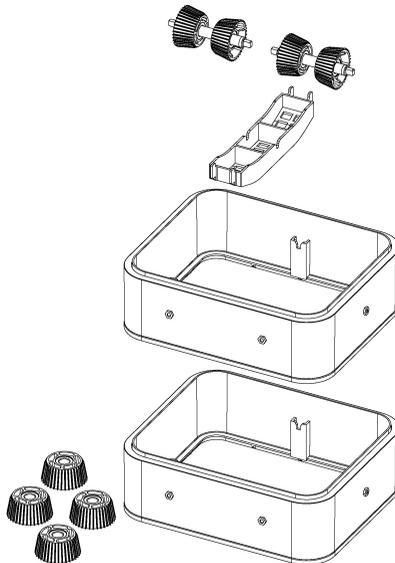
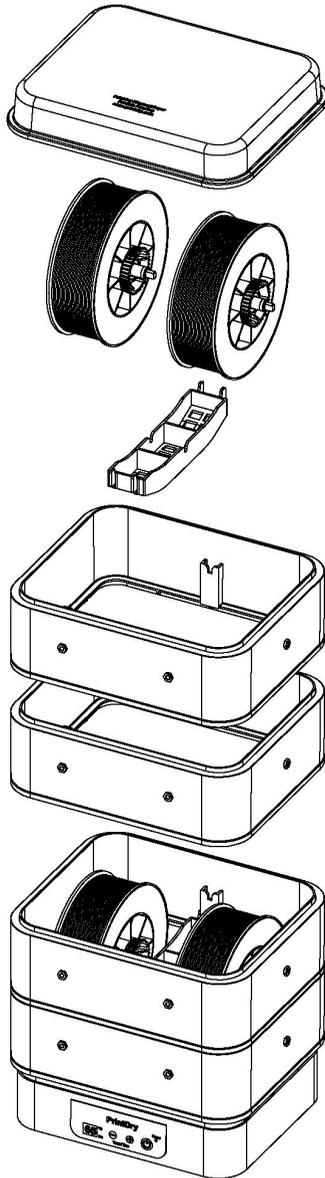

Fig.6 Additional Chamber Kit (Optional)
Fig.7 Use of Additional Chamber Kit (ACK-PRO)
4 vertically mounted spools with max OD of 203mm (8") each. See Fig.7.
- **ACK:** Additional chamber kit (Fig. 6) can be added on top to hold 2 additional filament spools, as shown in Fig. 7. Please visit our website for more info.